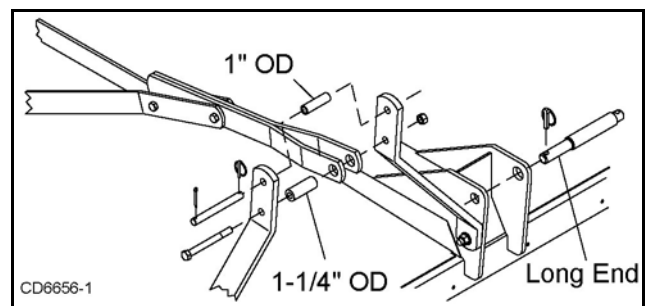

Figure 3. DS120 Cat. 2 Standard Hitch Connection
2. Connect the tractor top link to the cutter A-frame using the upper holes and 1" OD sleeve. The break link must be placed in the lower holes of the A-frame. See Figure 3.